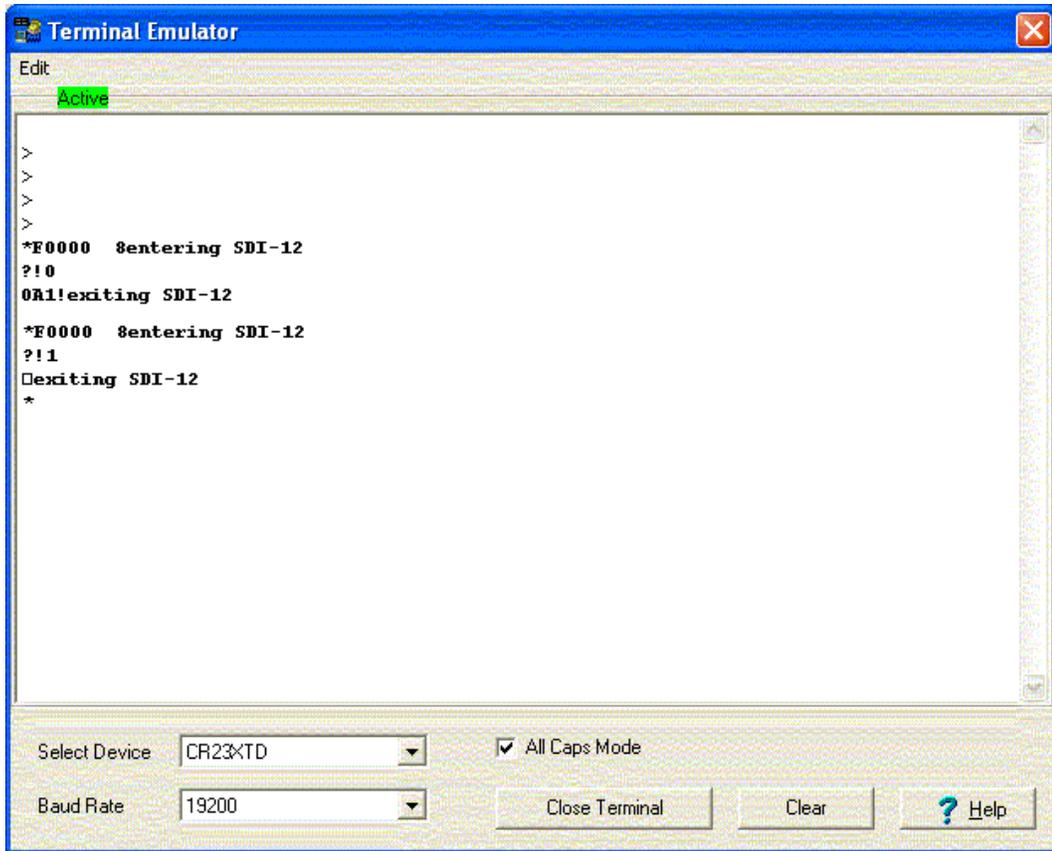

FIGURE 7-2. SDI-12 Transparent Mode on an Edlog table-based datalogger using control port 8 and changing the SDI-12 address from 0 to 1
- Click inside the “Terminal Emulator” window and press the <enter> key until the datalogger responds with the “>” prompt (FIGURE 7-2).